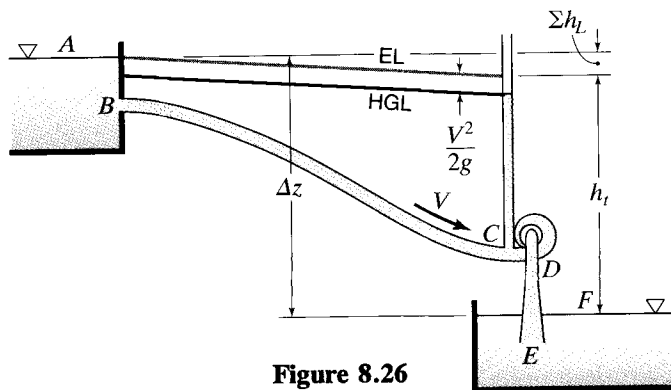

Figure 8.26
8.28.5 In Fig. 8.26 assume the pipe diameter is 12 in,  $f = 0.021$ ,  $BC = 200$  ft, and  $\Delta z = 120$  ft. The entrance to the pipe at the intake is flush with the wall, and discharge losses are negligible. (a) If  $Q = 8$  cfs of water, what head does it supply to the turbine? (b) What power does the turbine deliver if its efficiency is 75 percent?